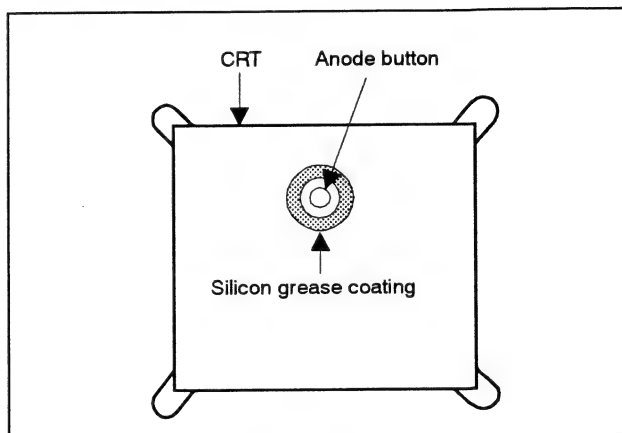

Fig. 4
- Subsequent to replacement of the CRT and HV transformer or repair of the anode cap, etc. by dismounting them, be sure to coat silicon grease for electrical insulation as shown in Fig.4. Wipe around the anode button with clean and dry cloth. (Fig.4) Coat silicon grease on the section around the anode button. At this time, take care so that any silicon greases dose not stick to the anode button. (Fig.5)